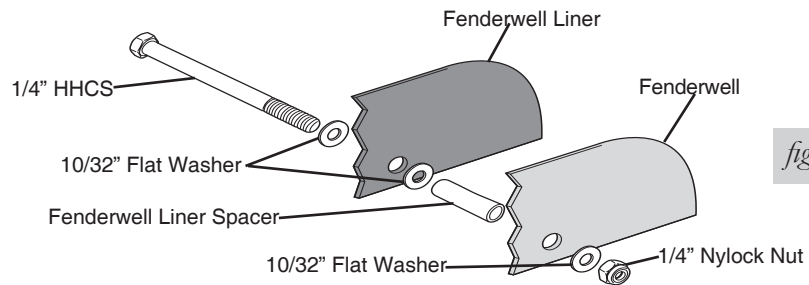

fig. 19
- Place the spacer between the fenderwell liner and the fenderwell at the center hole in the fenderwell liner (the hole nearest the air spring). Attach using the 1/4" Hex Head Cap Screw (HHCS), the 10/32" flat washers, and 1/4" nylock nut provided (fig. 19).
Fasten the HHCS with the washer and nut behind the fenderwell (fig. 19). Tighten securely.